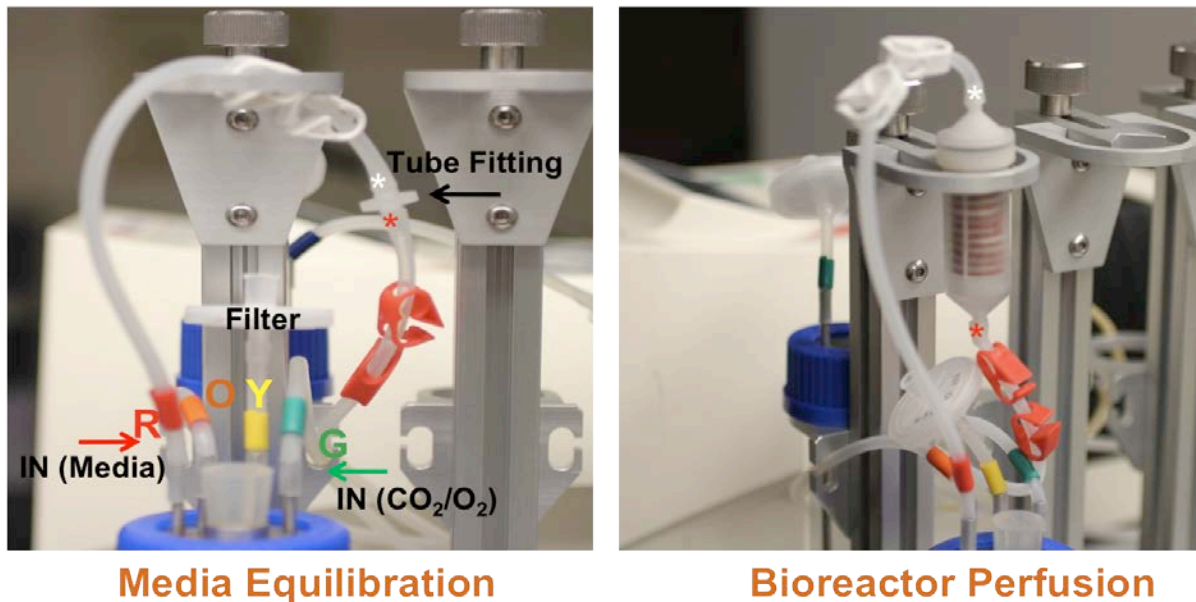

Figure 5. Position of tube fitting and Bioreactor Chamber
15. Next, remove the clear tubing with the syringe filter from the top of the bioreactor chamber. Remove the large tube fitting from the other end of the remaining tubing (with the white stoppers). Connect this tubing end to the top of the bioreactor chamber. At this point the bioreactor chamber is ready for 3D perfusion (See Figure 5 to see the large tube fitting position and bioreactor chamber for 3D perfusion (white and red asterisks)).